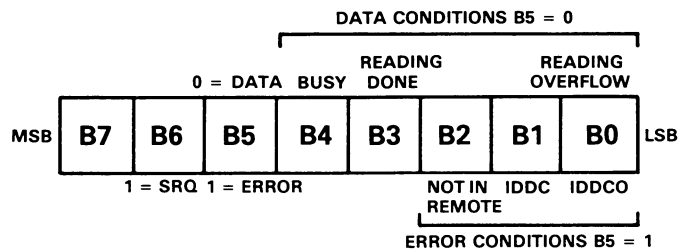

Figure 3-8. Status Byte Format
**SRQ Mask**—In order to facilitate SRQ programming, the Model 175 uses an internal mask to generate an SRQ. When a particular mask bit is set, the Model 175 will send an SRQ when those conditions occur. Bits within the mask can be controlled by sending the ASCII letter "M" followed by a decimal number to set the appropriate bits. Table 3-9 lists the commands to set the various mask bits, while Figure 3-8 shows the general mask format.
Status Byte Format—The status byte contains information relating to data and error conditions within the instrument. When a particular bit is set, certain conditions are present. Table 3-10 lists the meanings of the various bits, and Figure 3-8 shows the general format of the status byte, which is obtained by using the SPE, SPD polling sequence described in paragraph 3.4.7.